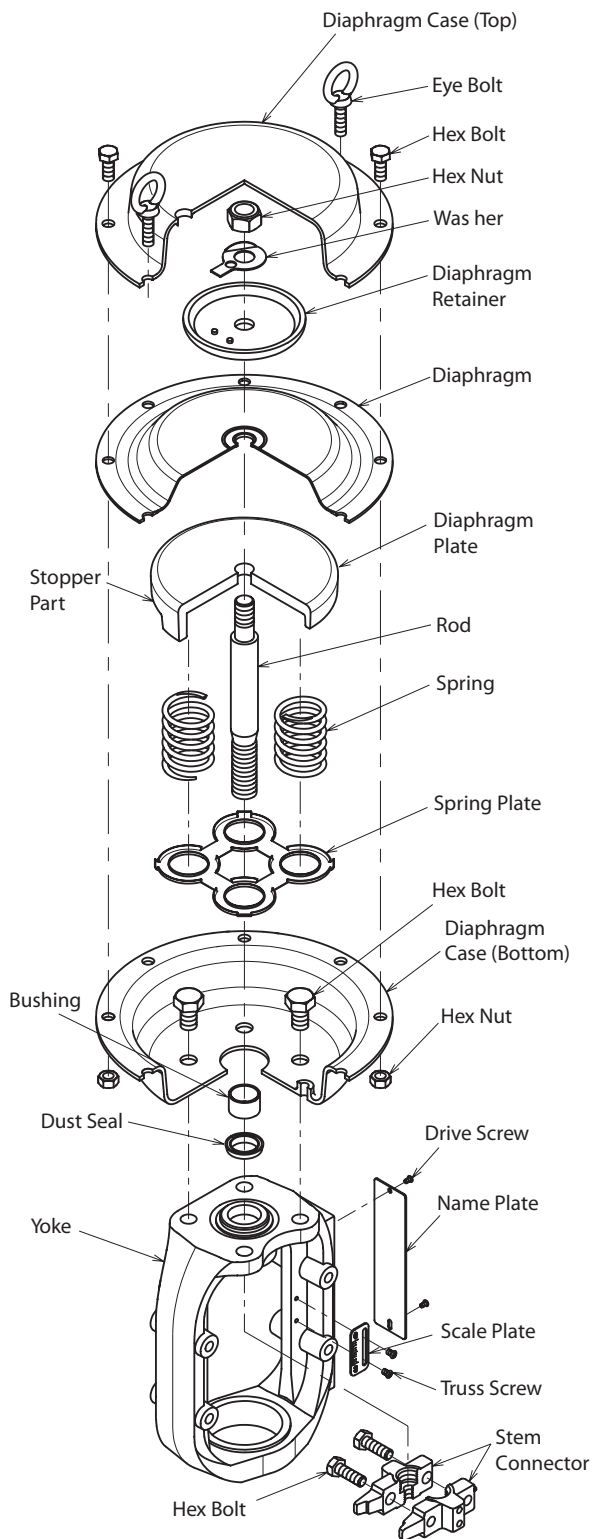
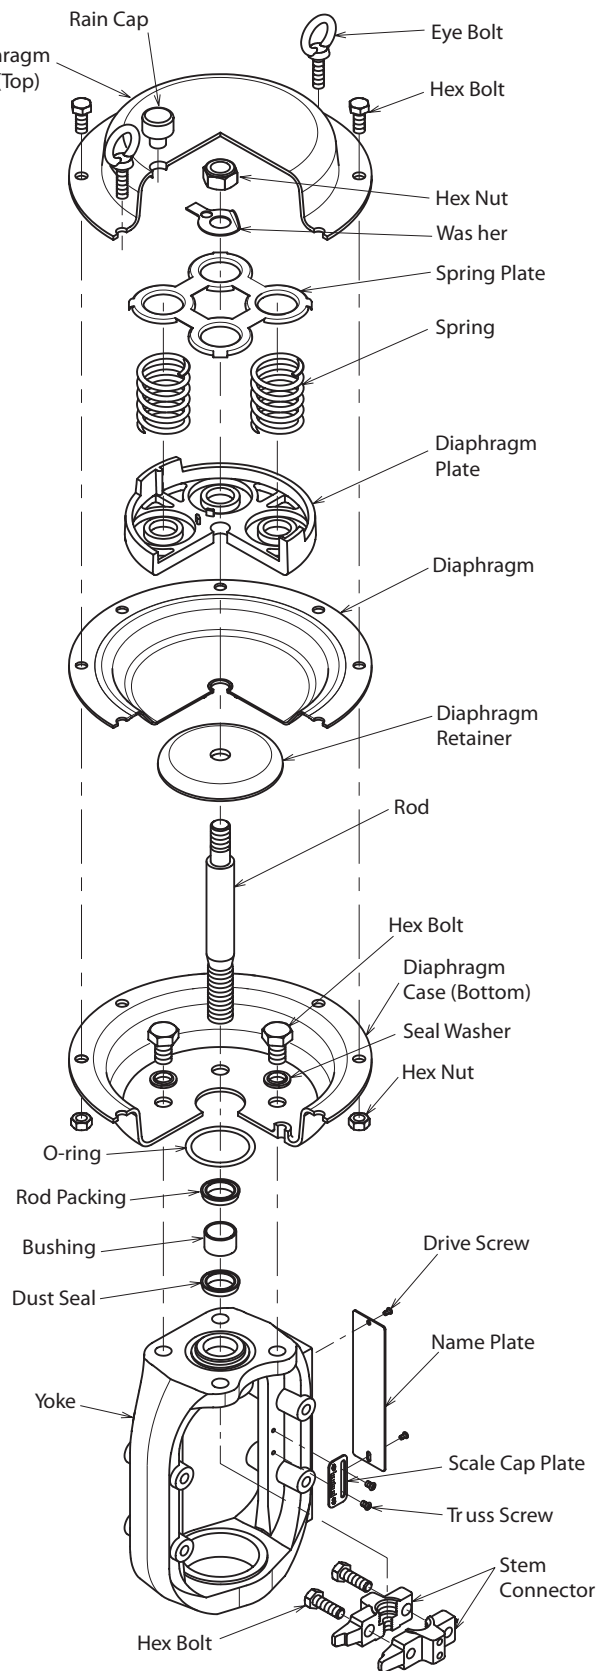

Figure 4-8 Direct Action model PSA1D
Figure 4-9 Reverse Action model PSA1R
A. Direct action model (see Figure 4-8)
- (1) Disconnect the air piping and detach the accessories from the actuator.
- (2) Remove the stem connector.
- (3) Remove the clamping bolts (except the pair of eyebolts) from the diaphragm case.
- (4) Alternately and evenly loosen the pair of eyebolts. The initial setting of the springs is achieved using these eyebolts.
- (5) Removing the diaphragm case. Pull the actuator rod upward and out together with the diaphragm.
- (6) Take out the springs.
B. Reverse action model (see Figure 4-9)
- (1) Disconnect the air piping and detach the accessories from the actuator
- (4) Alternately and evenly loosen the pair of eyebolts. The initial setting of the springs is achieved using the eyebolts.
- (5) Remove the diaphragm case. Take on the springs.
- (6) Pull the actuator rod upward and out together with the diaphragm.
• See Figure 4-8.
Install packing for the rod and dustseal in the correct direction. Refer to Figure 4-8.
Install packing for the rod and dustseal in the correct direction. Refer to Figure 4-9.